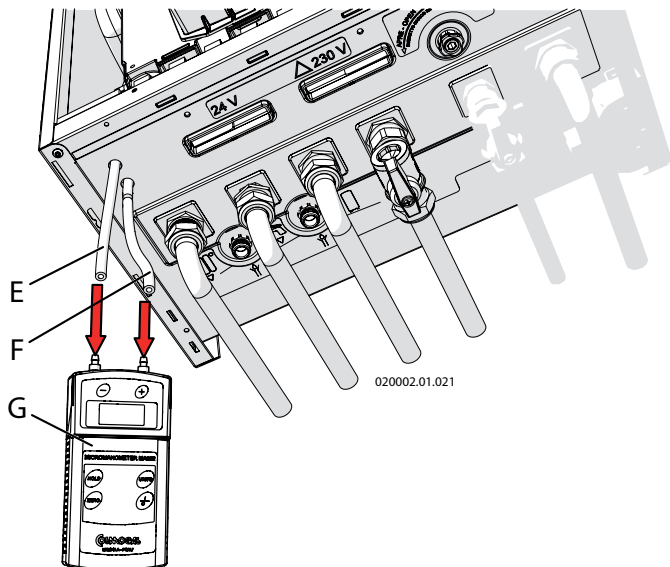

Figure 6.12 - Controlling combustion agent air pressure
- 10.- connect the manometer to the two pipes "E" and "F" as illustrated in figure 6.12, making sure to connect the pipe "E" to the negative pressure point and tube "F" to the positive pressure point;